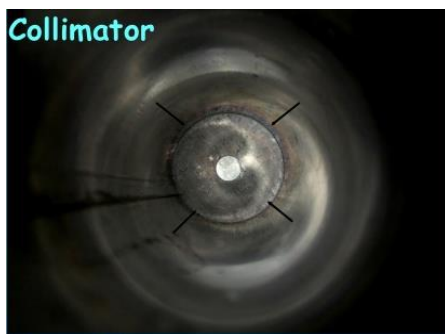

fig 4: collimator attached to the end of tube head
Fig 4: (A) Dental x-ray tube with cathode on left and copper anode on right. (B) Focusing cup containing a filament (*arrow*) in the cathode. (C) Copper anode with tungsten inset.